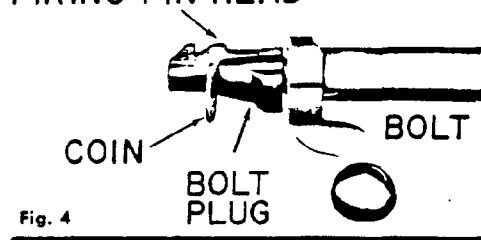

Fig. 4
**TO DISASSEMBLE BOLT PARTS** — Remove bolt from gun. Pull firing pin head back until coin or similar piece can be inserted (Fig. 4). Then hold bolt handle and turn bolt plug at rear until firing pin assembly can be unscrewed and removed from bolt assembly. Reassemble in reverse order.